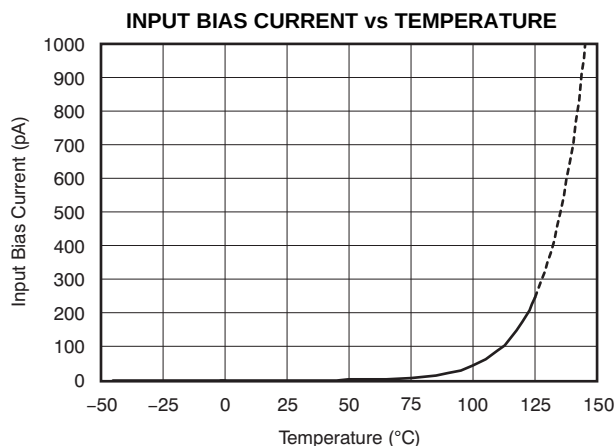

Figure 11.
- Updated format of Electrical Characteristics table - Updated Figure 11	3 7